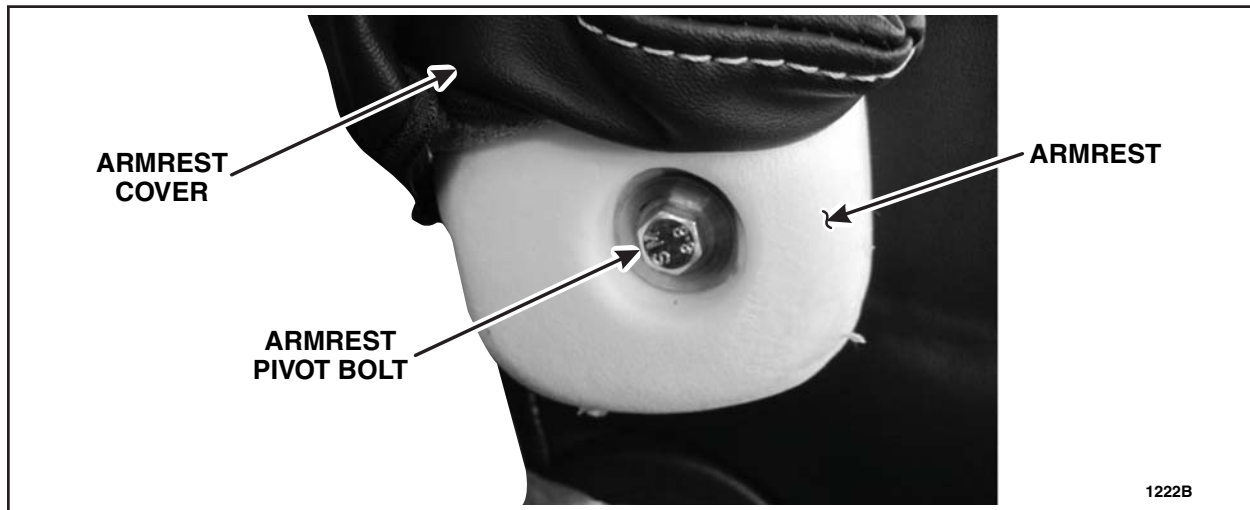

FIGURE 2
4. Partially roll back the armrest cover to access the armrest pivot bolt. See Figure 2.
5. Remove the armrest pivot bolt and the armrest. See Figure 2.